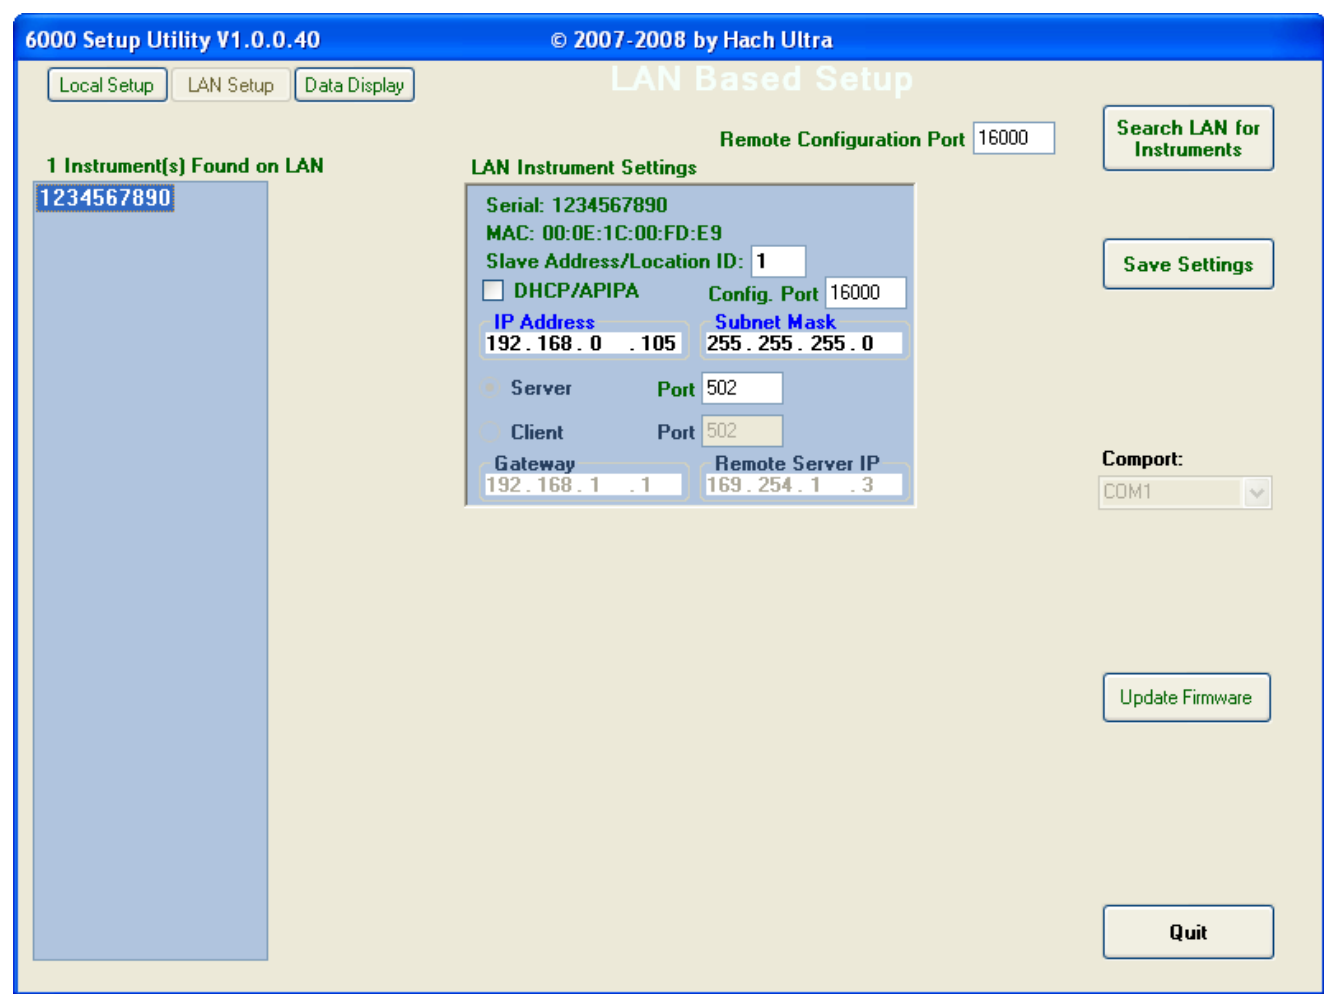

Figure 21 LAN setup for Ethernet units
1. In the utility program, select **LAN SETUP**. The LAN Based Setup window will be shown (Figure 21). The software will search for LAN instruments.
2. If LAN instruments are found, the instruments will be listed as shown in Figure 21. Select an instrument to show the LAN Instrument Settings.